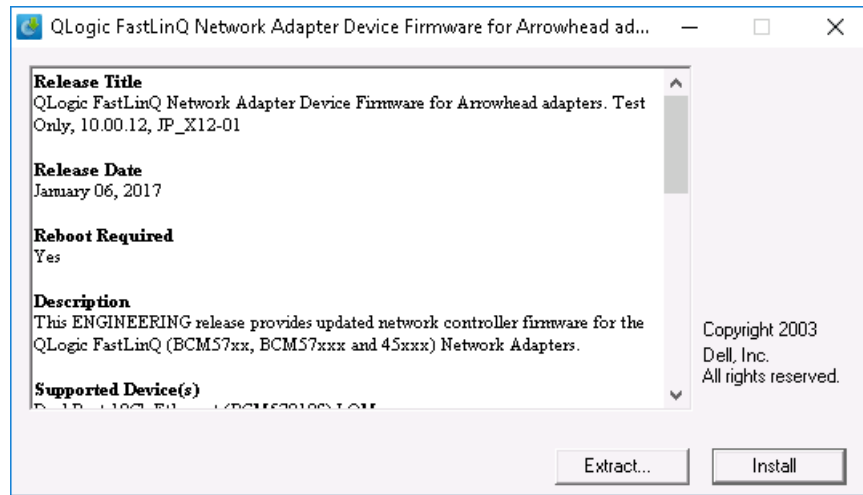

Figure 3-1. Dell Update Package Window
2. In the Dell Update Package window (Figure 3-1), click **Install**.